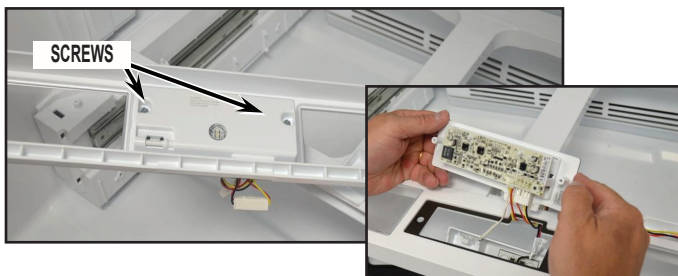

FIGURE 21
8. Remove the 2, 1/4" hex head screws on the bottom of the front cover and separate the deli user interface control board. See *Figure 21*.